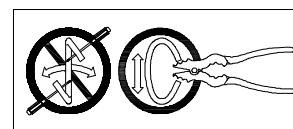

Fig.3
## CONNECTING THE WIRES (Fig.3)
15. Connect the electrical wire as shown in figure 3, making sure that all wire connectors are secured. If your outlet has a ground wire (green or bare copper), connect the fixtures ground wire to it. If the junction box has no ground wire, attach the bare copper fixture wire to the green ground screw (Screw: #8-32\*3/8"L) on the crossbar. Tuck the wire connections neatly into the ceiling junction box.